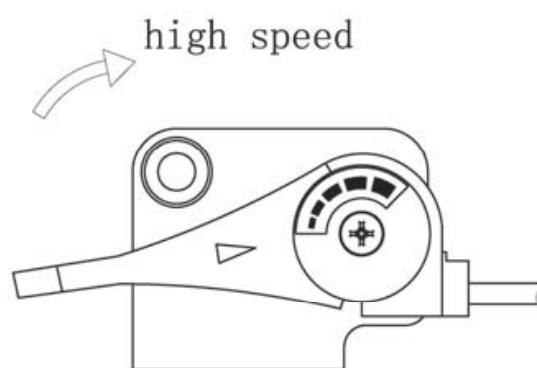

Figure 6
- (d) Put the fuel handle on the starting position (about one third of the whole scale). See Figure 6.